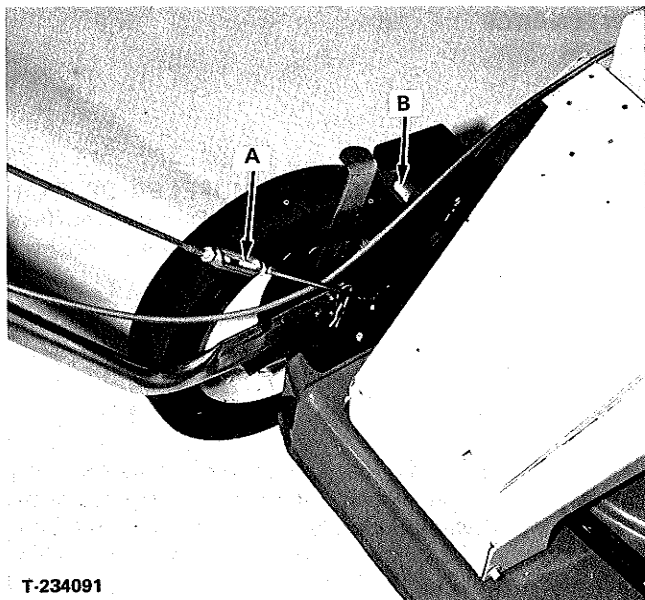
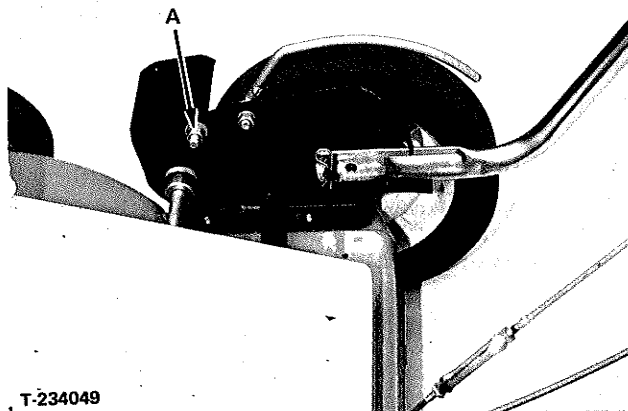

FIGURE 19 - DRIVE MECHANISM ADJUSTMENT
FIGURE 20 - DRIVE MECHANISM ADJUSTMENT
1. Loosen the two nuts on the turnbuckle (A, Figure 19).
2. Adjust turnbuckle so there is 1/16 inch (1.6 mm) clearance between left hand drive roller (B) and the tire.
4. Loosen right hand bellcrank pivot nut (A, Figure 20).